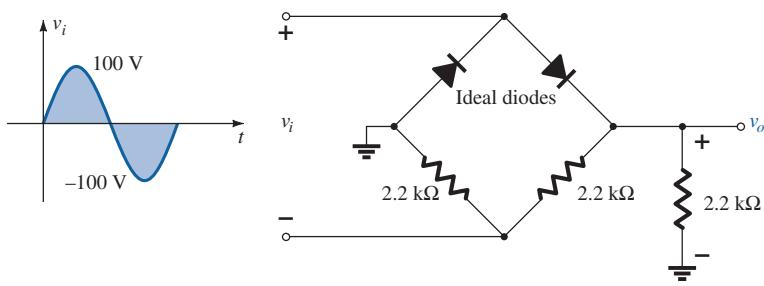

FIG. 174
*30. Sketch v_o for the network of Fig. 174 and determine the dc voltage available.